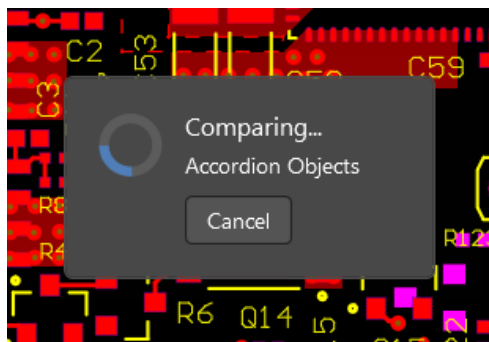

Figure 17. Compare progress dialog
- When comparing is in progress, you see an information dialog with the progress, as seen in Figure 17. Wait until comparing is finished.